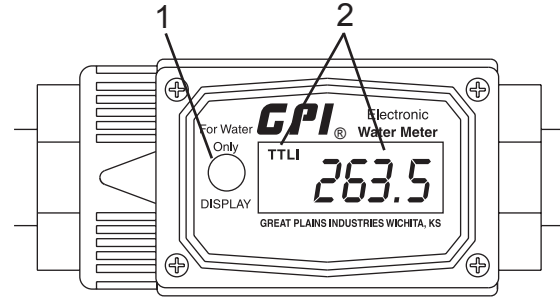

Figure 108
1. Activate the display by briefly pressing the DISPLAY button (Figure 108, Item 1).
2. Briefly press the DISPLAY button (Figure 108, Item 1) to change the total displayed - “Batch” mode (displayed as “TTL1”) or “Cumulative” mode (displayed as “TTL2”) (Figure 108, Item 2).
3. To reset the “Batch” total display, press and hold the DISPLAY button (Figure 108, Item 1) for three seconds.